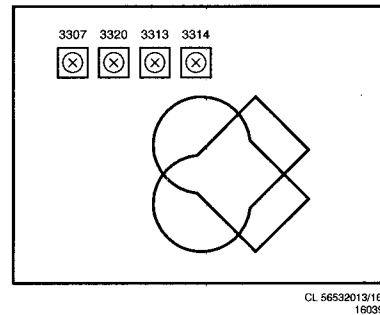

Fig. 7.3
2. Settings on the CRT panel (Fig. 7.3)